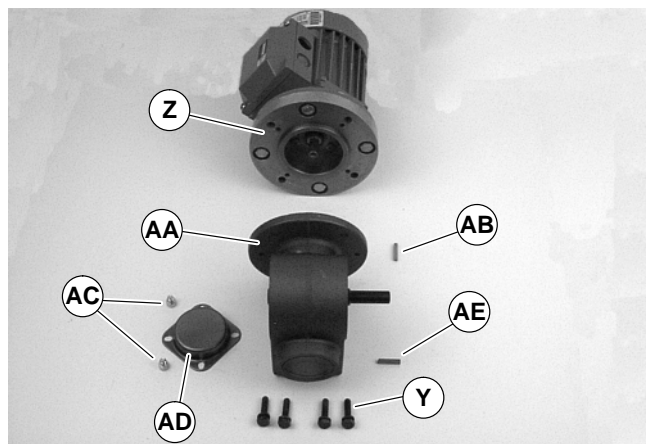

Figure 15
5. Remove four screws (Y of Figure 15). Detach motor with adapter flange (Z) from gear reducer (AA). Retain motor output shaft key (AB).
11. With key (AB of Figure 15) in keyway, slide motor with adapter flange (Z) and gear reducer (AA) together. Install screws (Y) and tighten.